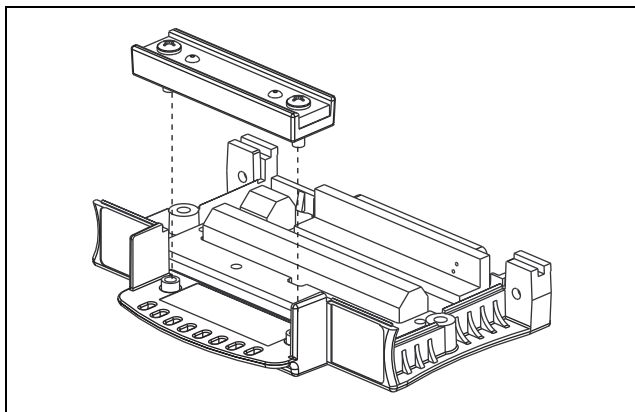

Figure 5. Installing the Strain-Relief Bar
1. Using a number 2 Phillips screwdriver, install the strain-relief bar on the connector block as shown in Figure 5.